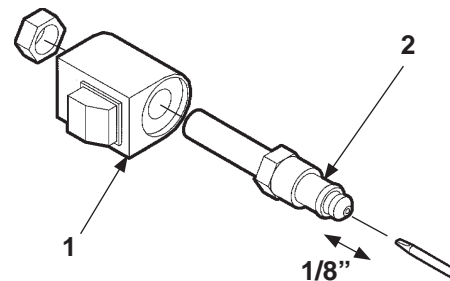

FIG. 34-2
2. Check the valve stem by removing the coil assembly (**Item 1, FIG. 34-2**). With platform on ground, unscrew the valve stem (**Item 2, FIG. 34-2**) from the pump. Push on the plunger that is located inside the valve stem by inserting a small screwdriver blade in the end. If the plunger does not move freely, (approximately 1/8") replace the valve stem. **When reinstalling valve stem, torque hex nut to 30 in-lbs.**